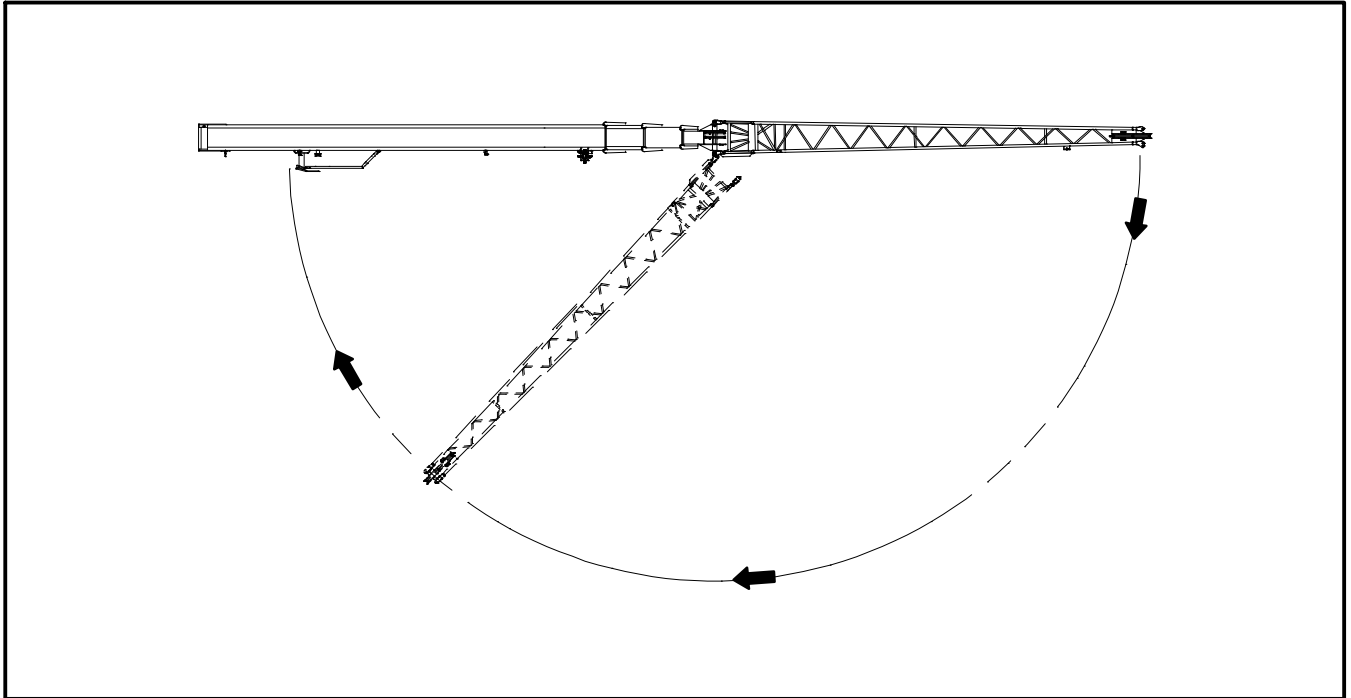

Figure 4–25
12. Remove the inside bottom right fly connecting pin on the right side of the fly. To reduce loading and ease pin removal, push the fly to the right. Refer to Figure 4–24. Remove the inside top right fly connecting pin on the right side of the fly. To reduce loading and ease pin removal push the fly to the left. Store the two pins and keepers in the storage rings on the rear right side of the fly.
14. Slowly swing the fly around to the right side of the boom while slowly booming up to 50°. Refer to Figure 4–25.